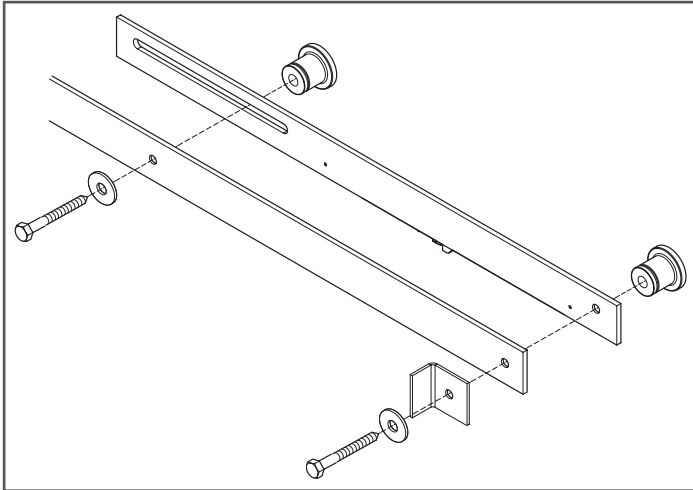

Figure 4
4. Place the soft close mounting bracket and mechanism against the back of the track with the soft close mechanism facing the wall (Figure 4).